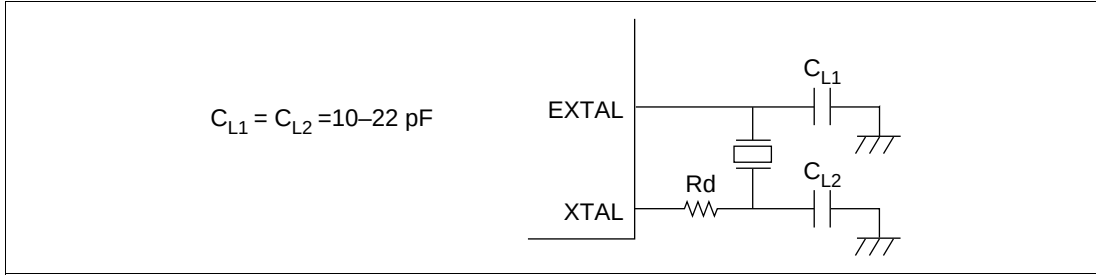

**Figure 7.2 Connection of Crystal Resonator (Example)**
**Circuit Configuration:** A crystal resonator can be connected as shown in figure 7.2. Use the damping resistance  $R_d$  shown in table 7.1. Use an AT-cut parallel resonating crystal with a frequency equal to the system clock (CK) frequency. Connect load capacitors ( $C_{L1}$  and  $C_{L2}$ ) as shown in the figure. The clock pulse produced by the crystal resonator and internal pulse generator is sent to the duty cycle correction circuit where its duty cycle is corrected. It is then supplied to the chip and to external devices.